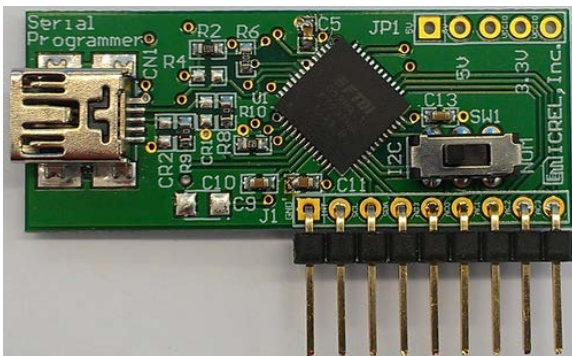

Figure 4. Top Side of the Adapter with the Mini Slide Switch Toggled to I2C Position
5. Set the mini slide switch SW1 on the MICUSB Dongle EV. The SW1 should be toggled to the I2C position as shown in Figure 4.